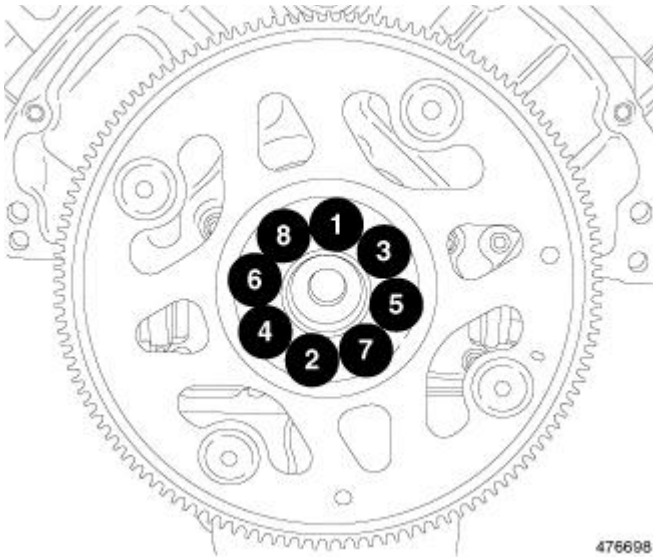

Fig. 170: Flexplate Retaining Bolt Removal & Tightening Sequence
2. Using the sequence shown in illustration, tighten the flexplate retaining bolts to 95 N.m (70 ft. lbs.). See **Fig. 170**.